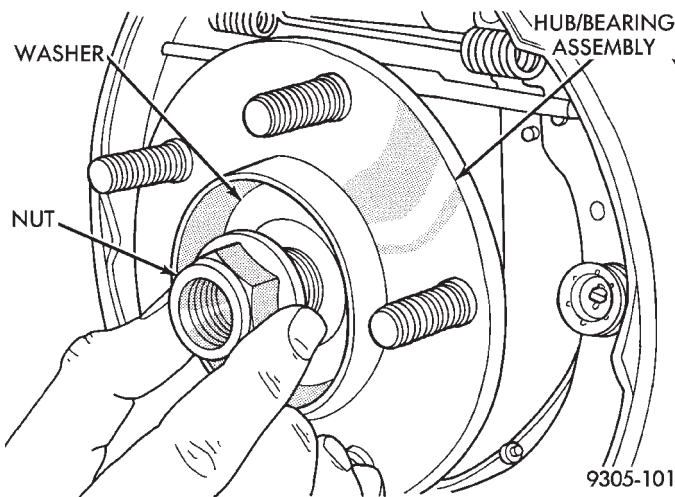

Fig. 3 Rear Hub And Bearing Retaining Nut and Washer Removal
(4) If vehicle is equipped with rear disc brakes, remove rear braking disc from hub. If vehicle is equipped with rear drum brakes, remove the brake drum from the hub.
(5) On all rear brake applications, remove rear hub and bearing assembly retaining nut and washer (Fig. 3). Then remove the hub and bearing assembly from spindle.